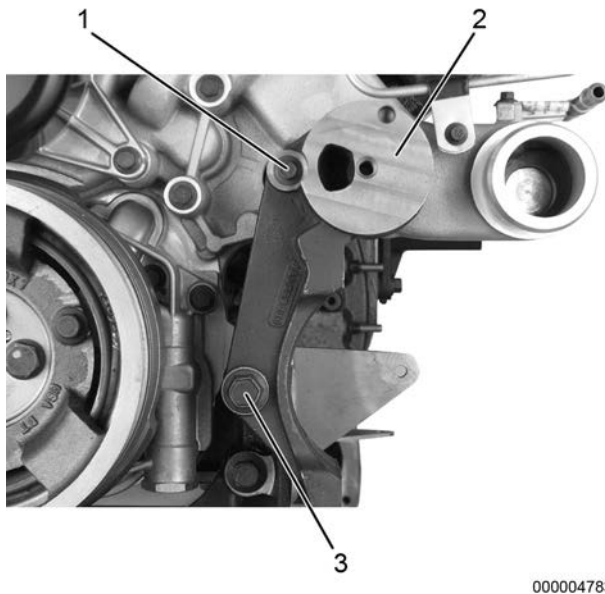

Figure 1. 2-Bolt Secondary A/C Compressor Support.
7. Remove bolts securing secondary A/C compressor and discard bolts (Figure 1, Items 1 and 3).
8. Remove and discard the secondary A/C compressor support (Figure 1, Item 2).